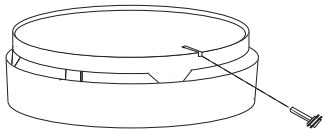

Figure 6 Tamper Resistant Locking Pin
10.7 To make your carbon monoxide alarm tamper resistant, a locking pin has been provided in the bag with the screws and anchors. Using this pin will deter children and others from removing the alarm from the mounting plate. To use the pin insert it into the hole in the side of the alarm after the alarm has been installed on the mounting plate (See Figure 6). Note the tamper resist pin will have to be removed in order to change the battery; this can be done easily with a long nose pliers. Using the long nose pliers pull the pin out of the hole, it is now possible to remove the alarm from the mounting plate.
12.2. To clean your alarm remove it from the mounting bracket as outlined in Section 10.2: IF TAMPER RESISTANT PIN HAS BEEN USED, REFER TO STEP 10.7 UNDER INSTALLATION INSTRUCTIONS FOR REMOVAL INSTRUCTIONS. (See Figure 6)
IF TAMPER RESISTANT PIN HAS BEEN USED, REFER TO STEP 10.7 UNDER INSTALLATION INSTRUCTIONS FOR REMOVAL INSTRUCTIONS. (See Figure 6)